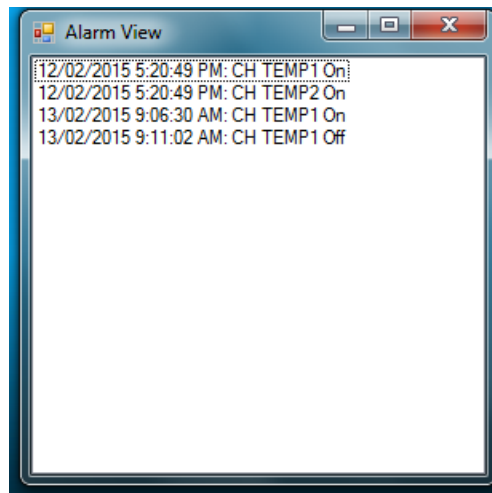

Figure 2.12.8.1
Step 1: Click on the 'Show Alarms' button. A list of alarms is displayed in a table as shown in figure 2.12.8.1.